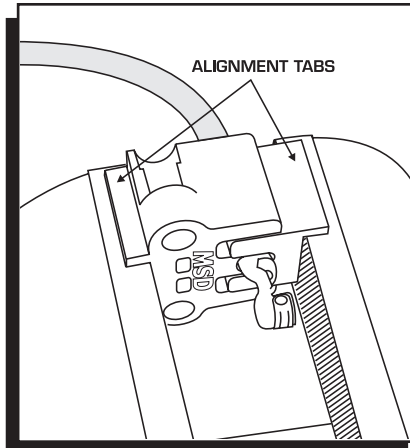

Figure 8
4. Put the assembly into a vise making sure the alignment tabs are on the outside edge of the vise jaws (Figure 8).